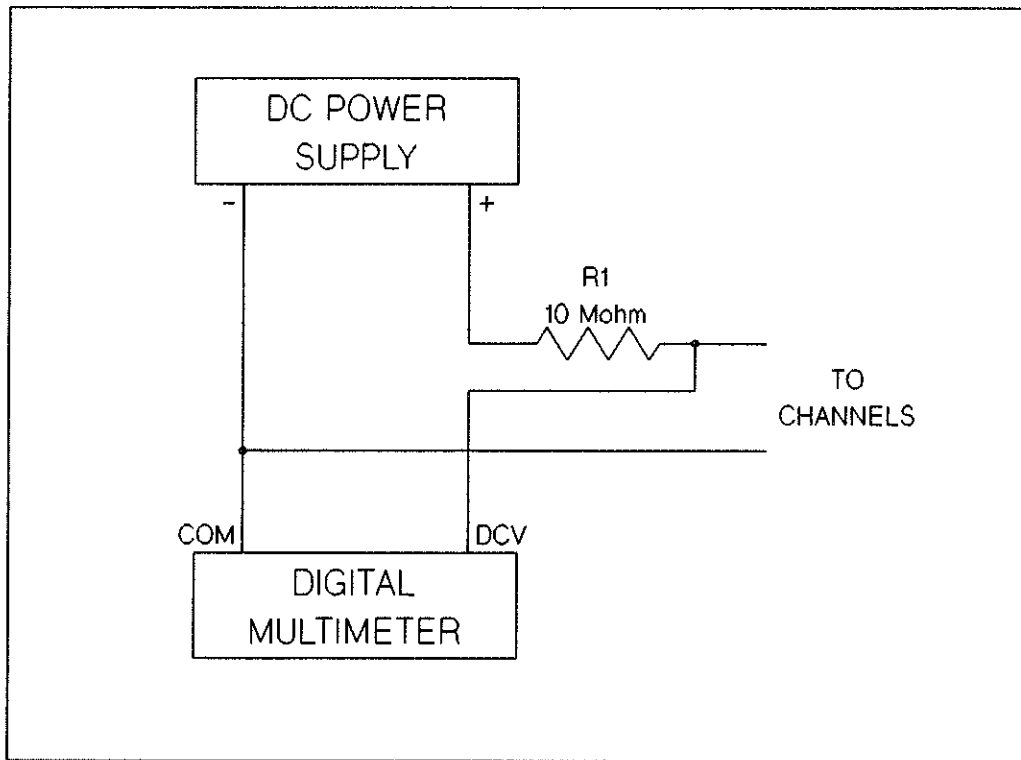

Figure 8-41 HP 44706A DC Isolation Set-Up
3. Connect the resistor, power supply and multimeter as shown in Figure 8-41.